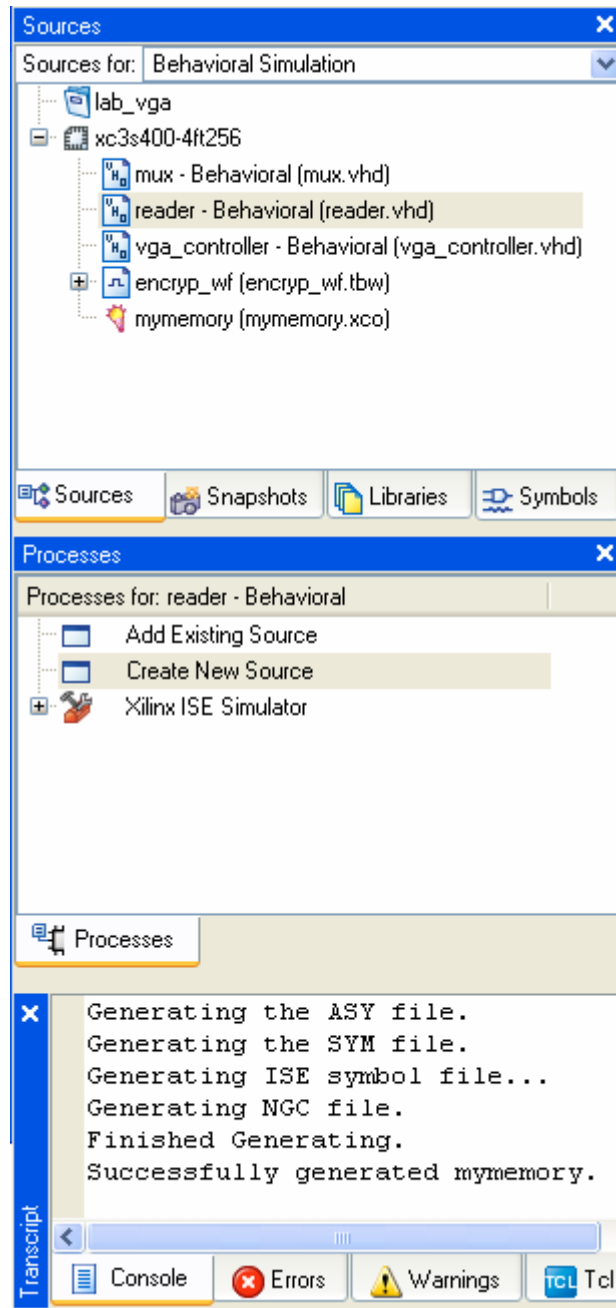

Figure 6. Generation of the memory.
f. Click on **Generate** to create the block. This process could take some minutes. You will know that Xilinx have finished with the block generation when you have the source added to your project (Figure 6).